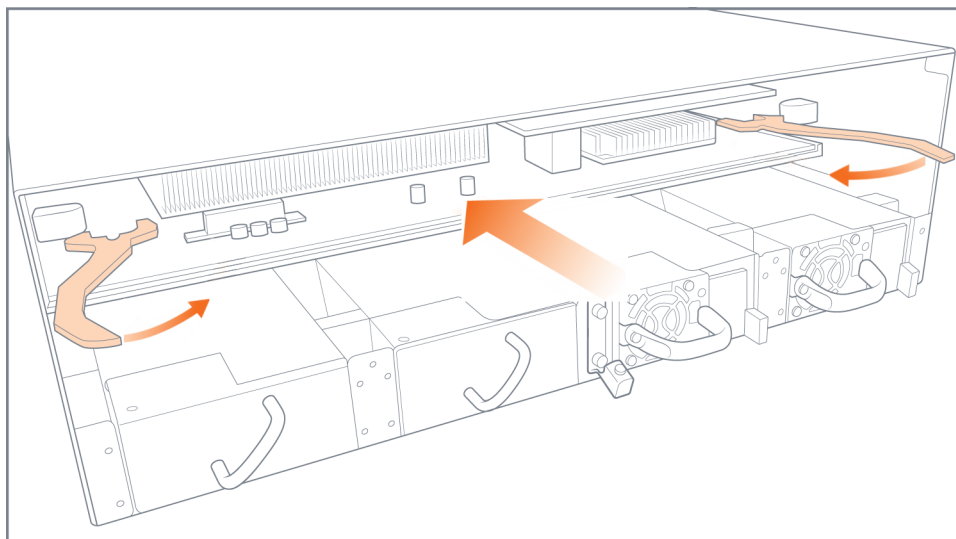

Figure 4-21: Control Card Ejector Handles
2. Swing both ejector handles inward as shown in Figure 4-21 on page 87.